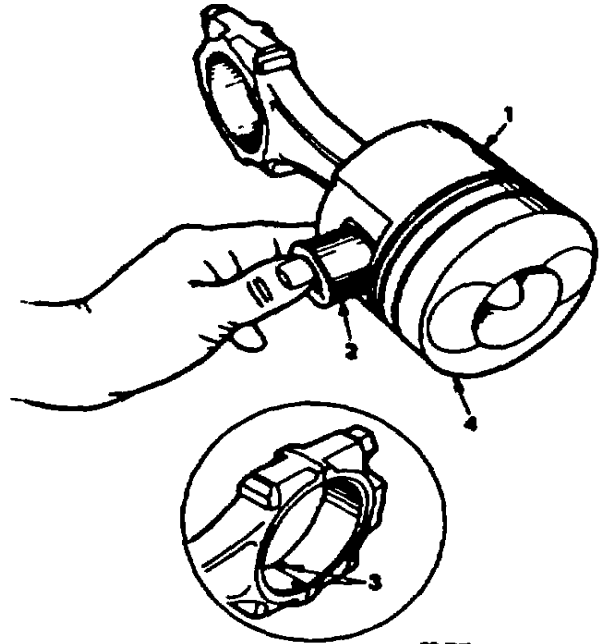

Figure 82. Installing Piston Pin
24. To assemble piston to connecting rod, position rod into piston so that connecting rod bearing locators (tang) will be toward the side marked "top" of piston or the side where the combustion cavity is close to the edge of the piston (Figure 82). Lubricate piston pin with clean engine oil. Align rod bore and piston bore and insert piston pin. Push piston pin into place with thumb and install retainer snap rings.